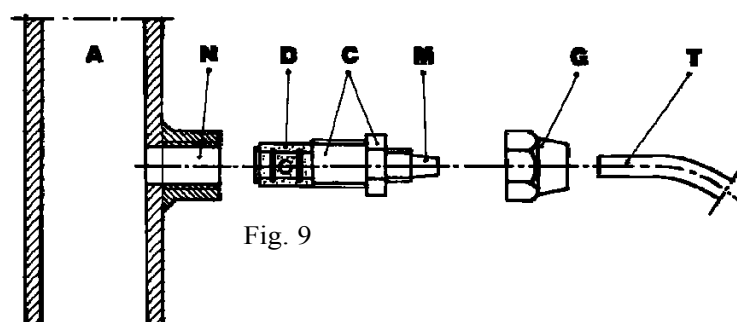

Fig. 9
- h. Select the most appropriate injection point on a pipe of the plant to be treated and fit a steel 3/8" female gas connector. This connector is not supplied with the pump. Screw the injection valve to the gas connector, using Teflon® tape as a gasket as shown in Fig. 9. Connect the discharge piping to the conical connector on the injection valve and lock it with the ring-nut G. The injection valve also acts as a non-return valve.
(fig.9)